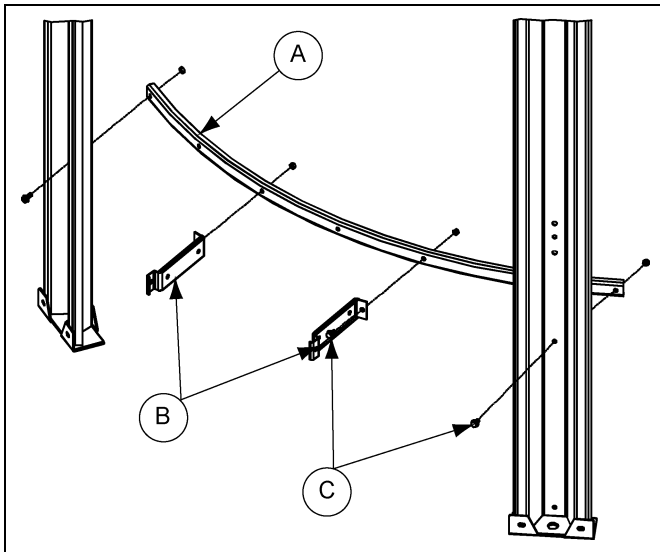

Figure 8I
- The ladder must be secured to the leg assembly with standoff brackets using support channels as shown in Figure 8I.